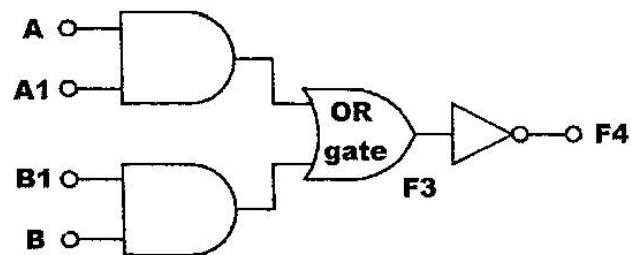

Figure 4.4
- 4.4 Prove that the circuit in Fig 4.1(a) can be converted to AND-OR-INVERT circuit gate as shown in Figure 4.4. Show your working.